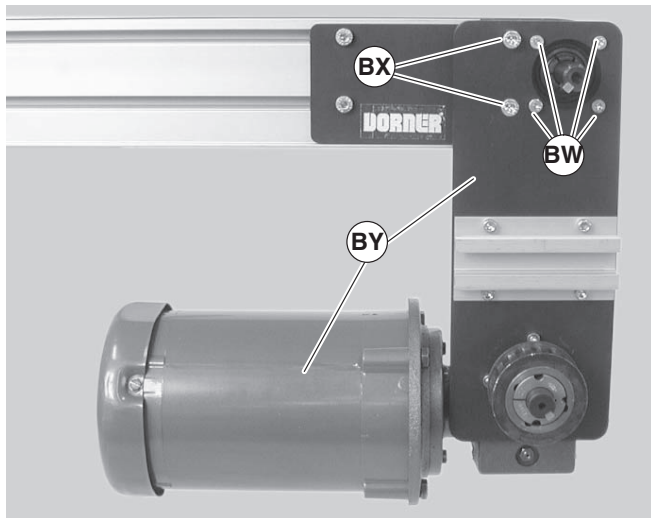

Figure 63
- e. Remove four (4) M5 mounting screws (Figure 63, item BX) and two (2) M8 mounting screws (BX).
- f. Remove gearmotor and mounting plate assembly (Figure 63, item BY).